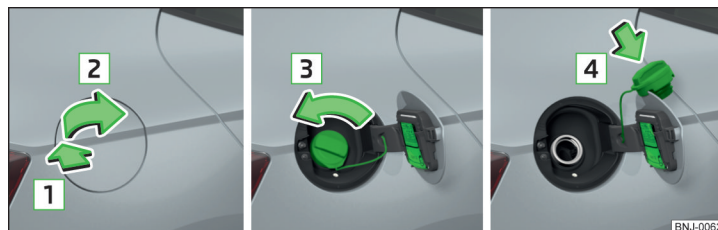

Fig. 164 Open fuel filler flap / unscrew tank cap / place the tank cap on the fuel filler flap
The correct fuel grades for your vehicle are specified on the inside of the fuel filler flap » Fig. 164 on page 147.
- Press on the fuel filler flap in the direction of the arrow 1 accordingly » Fig. 164.